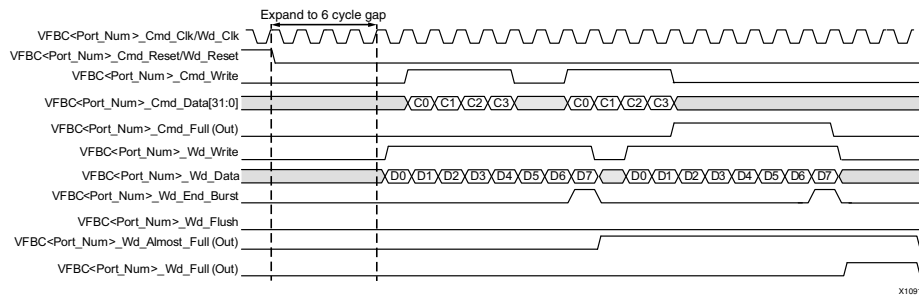

Figure 40: VFBC Write Timing
- The `VFBC<Port_Num>_Wd_End_Burst` signal is used only when the transfer is not a multiple of the burst size. If the transfer ends on a boundary that is not 32-word aligned, this signal must be asserted high during the last word transferred. The following figure shows a typical VFBC Write operation and provides an example of VFBC Write Timing. The actions of the Write data interface are enumerated below in Figure 40.
- As shown in Figure 40, the command words C0, C1, C2, and C3 are being written during a data Write. The command words can be written before, during, or after the data is written.
- Figure 40 also shows one cycle between `VFBC<Port_Num>_Wd_End_Burst` and the next burst, although zero to any number of cycles can exist between burst end and the next burst. The number of cycles between bursts is controlled by the `VFBC<Port_Num>_Wd_Write` signal. This is the FIFO data push signal asserted by the VFBC client.